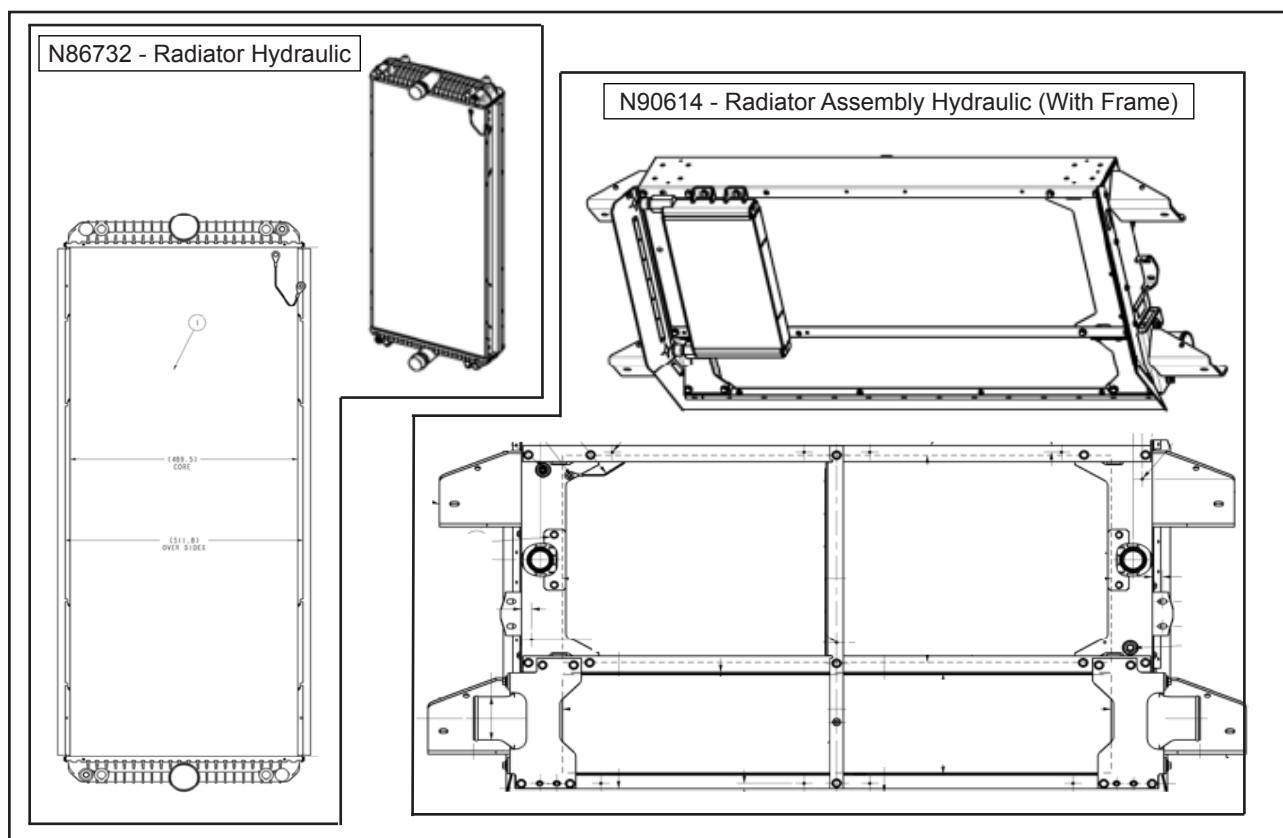

Figure 3 - Typical View of New Radiator and Complete Radiator assembly with Frame
- 1.8. Remove and replace the radiator (or) complete radiator assembly pack with new assembly. Figure 3 represents the individual drawing of Radiator (N86732) and Complete Radiator assembly (N90614).